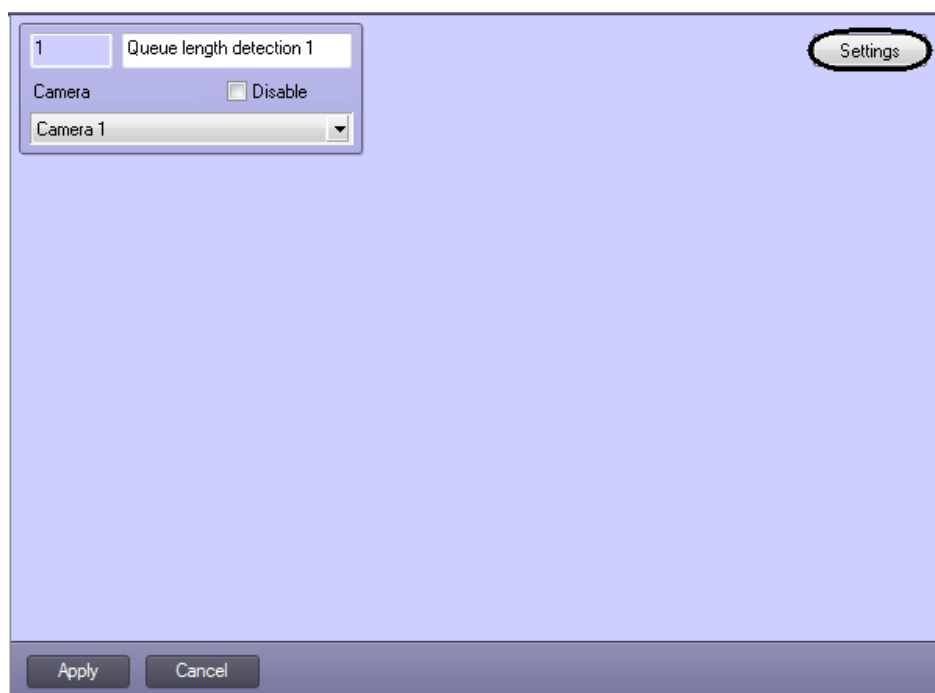

Fig. 6.1—2 Queue Length Detection control panel
2. Click **Settings** (see Fig. 6.1—2).